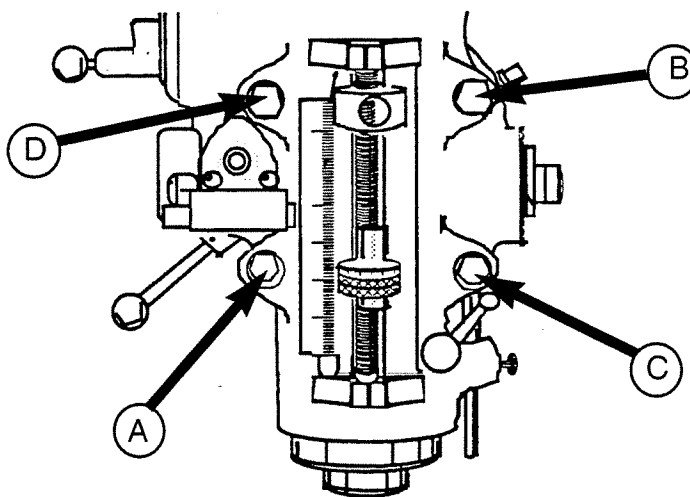

Figure 3-3. Tightening Head Bolts
2. Loosen four locknuts (3) and pull stop pin (2) out to detent. Using the swivel bolt (4), rotate head attachment in either direction until it is within approximately 20% of vertical.
7. Retighten all nuts first to 25 ft. lbs. torque in a diagonal sequence and then to 50 ft. lbs, (see Figure 3-3).